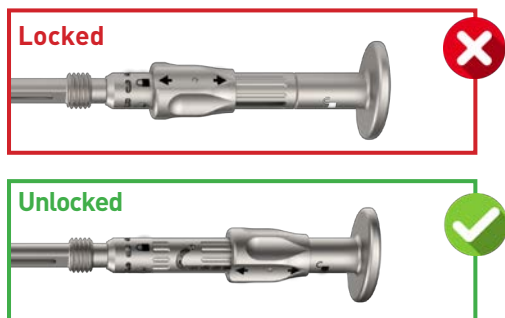

Fig. 58
- Ensure the Implant Extractor Body is in its fully unlocked position. To unlock, push the nut down, twist and release (Fig. 58). The arrow should align with the unlock symbol.